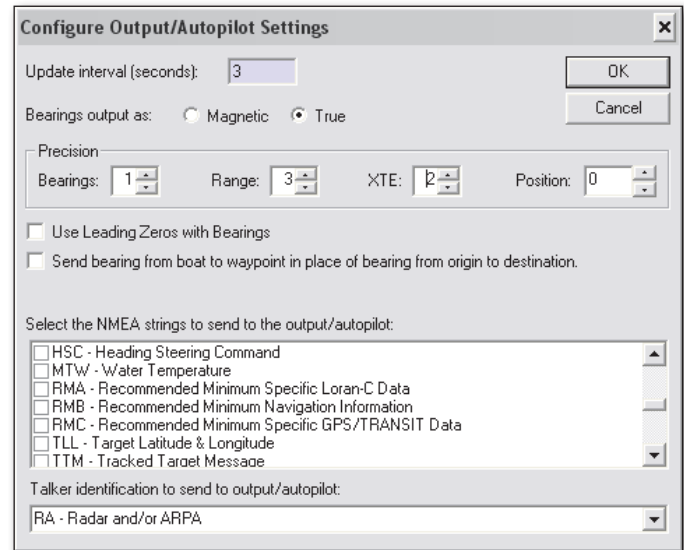

Figure 17.2 - Configure Autopilot Settings Dialog Box
2. Click the **Configure Autopilot** button. This will display the Configure Autopilot Settings shown in Figure 17.2.